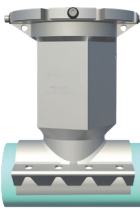

Figure 2
D.6) Mount the top half of the valve body on the pipe in the position required for permanent installation (see Figure 2). Do not rotate the top half of the valve body after it is positioned on the pipe.